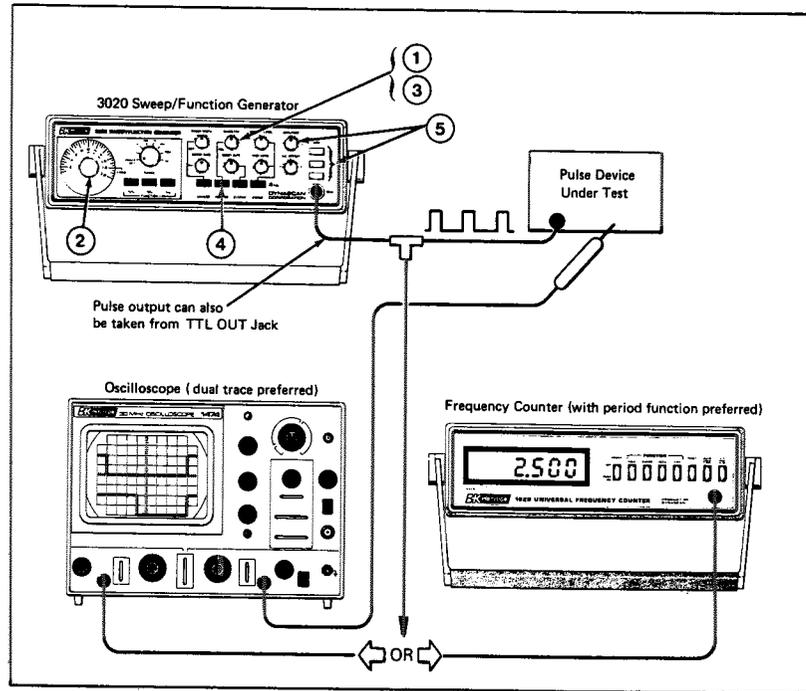

Fig. 6. Typical set-up for pulse generation.
- c. Fig. 6 and 7 give a typical example for obtaining a specific pulse waveform.
Assume that it is desired to generate a pulse waveform with a 40-microsecond pulse width and repetition rate of 2.5 kHz. The following procedure, along with Figs. 6 and 7, describe how to connect equipment, set controls, and interpret measurements to obtain this pulse waveform. Pulse waveforms of other pulse widths and repetition rates may be obtained similarly. Steps of the procedure must be performed in the sequence specified.
1. Connect equipment as shown in Fig. 6 Set the SYMMETRY control to **CAL**.